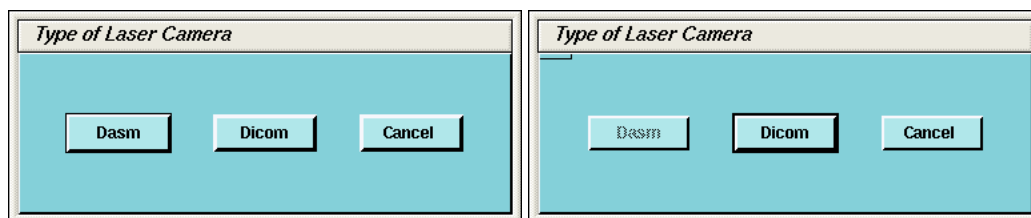

Figure 4-10 Dialog Box for camera Type (with and without DASM)
- b.) A dialog window for the camera type (DASM/DICOM) appears. If no DASM is detected during the OC boot, the DASM button will be disabled (Figure 4-10). If a DASM is present and has not been detected, reboot the OC and run the camera configuration tool again.